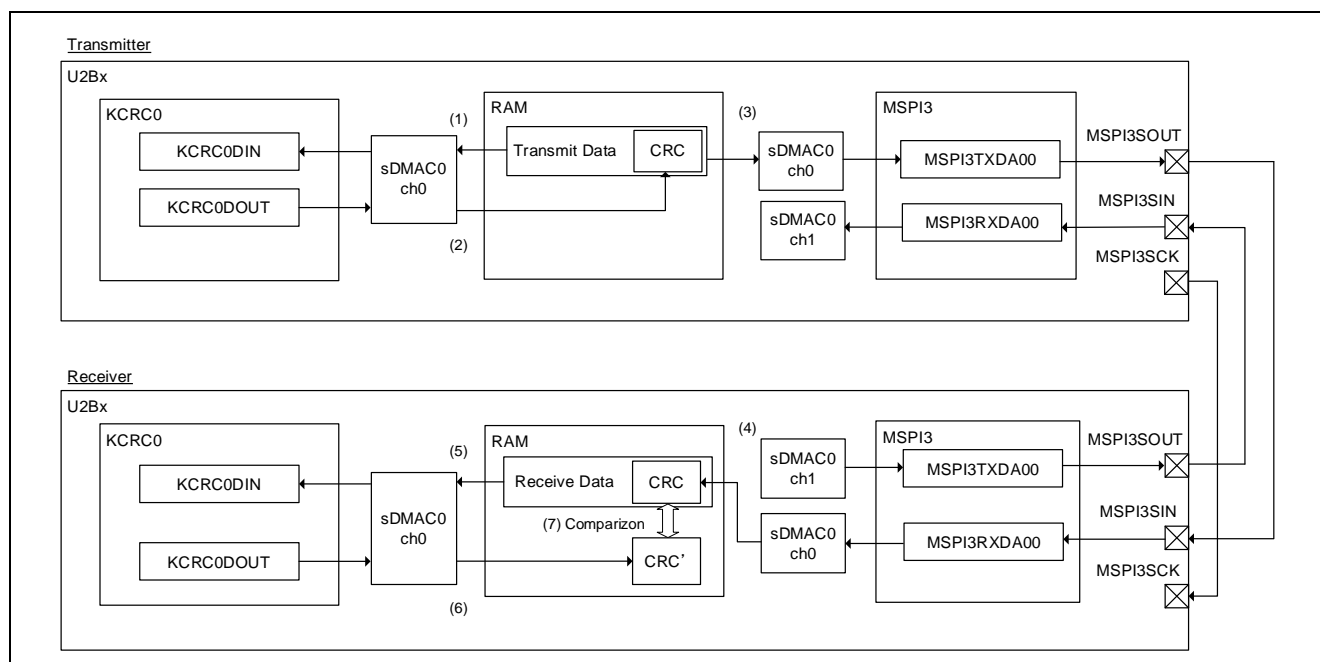

Figure 3-1 Operation Diagram
Figure 3-1 shows a diagram of this operation example. Processes (1) through (6) in the diagram are executed by the sDMAC, and process (7) is executed by the CPU.